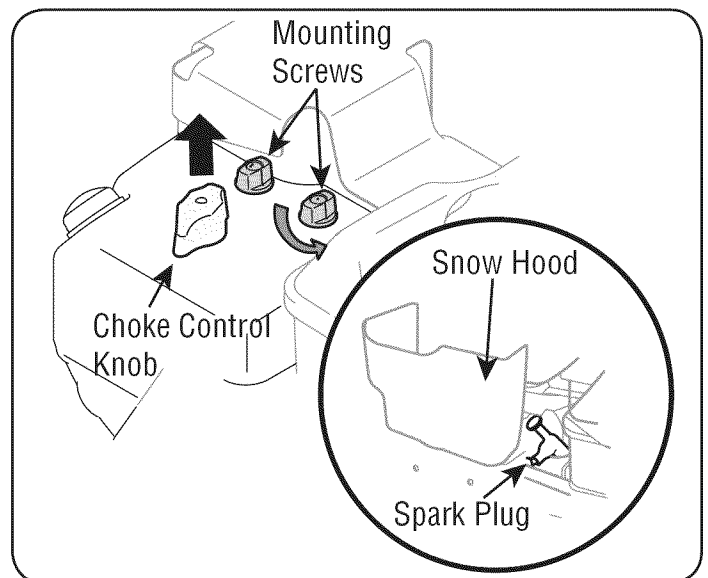

Figure 14
- Loosen and remove the mounting screws from the snow hood. See Figure 14.
- Slowly remove the snow hood, making sure that the primer bulb hose and ignition wire remain connected. See Figure 14 inset.